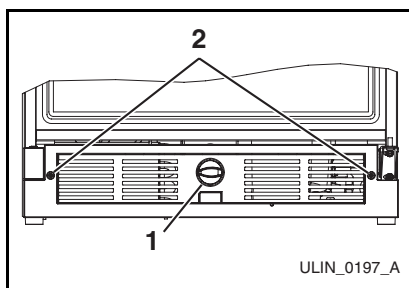

Figure 11
2. Remove the control knob (**Figure 11, 1**) by pulling it straight out, away from grille.
3. Remove two screws from grille (**Figure 11, 2**) and save.
7. Reinstall the control knob (**Figure 11, 1**).